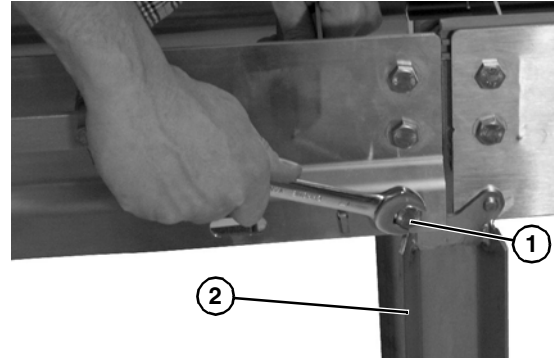

Figure 52
3. Remove hex head bolt (**Figure 52, item 1**) holding straight section frame to conveyor stand (**Figure 52, item 2**). Repeat on opposite side.